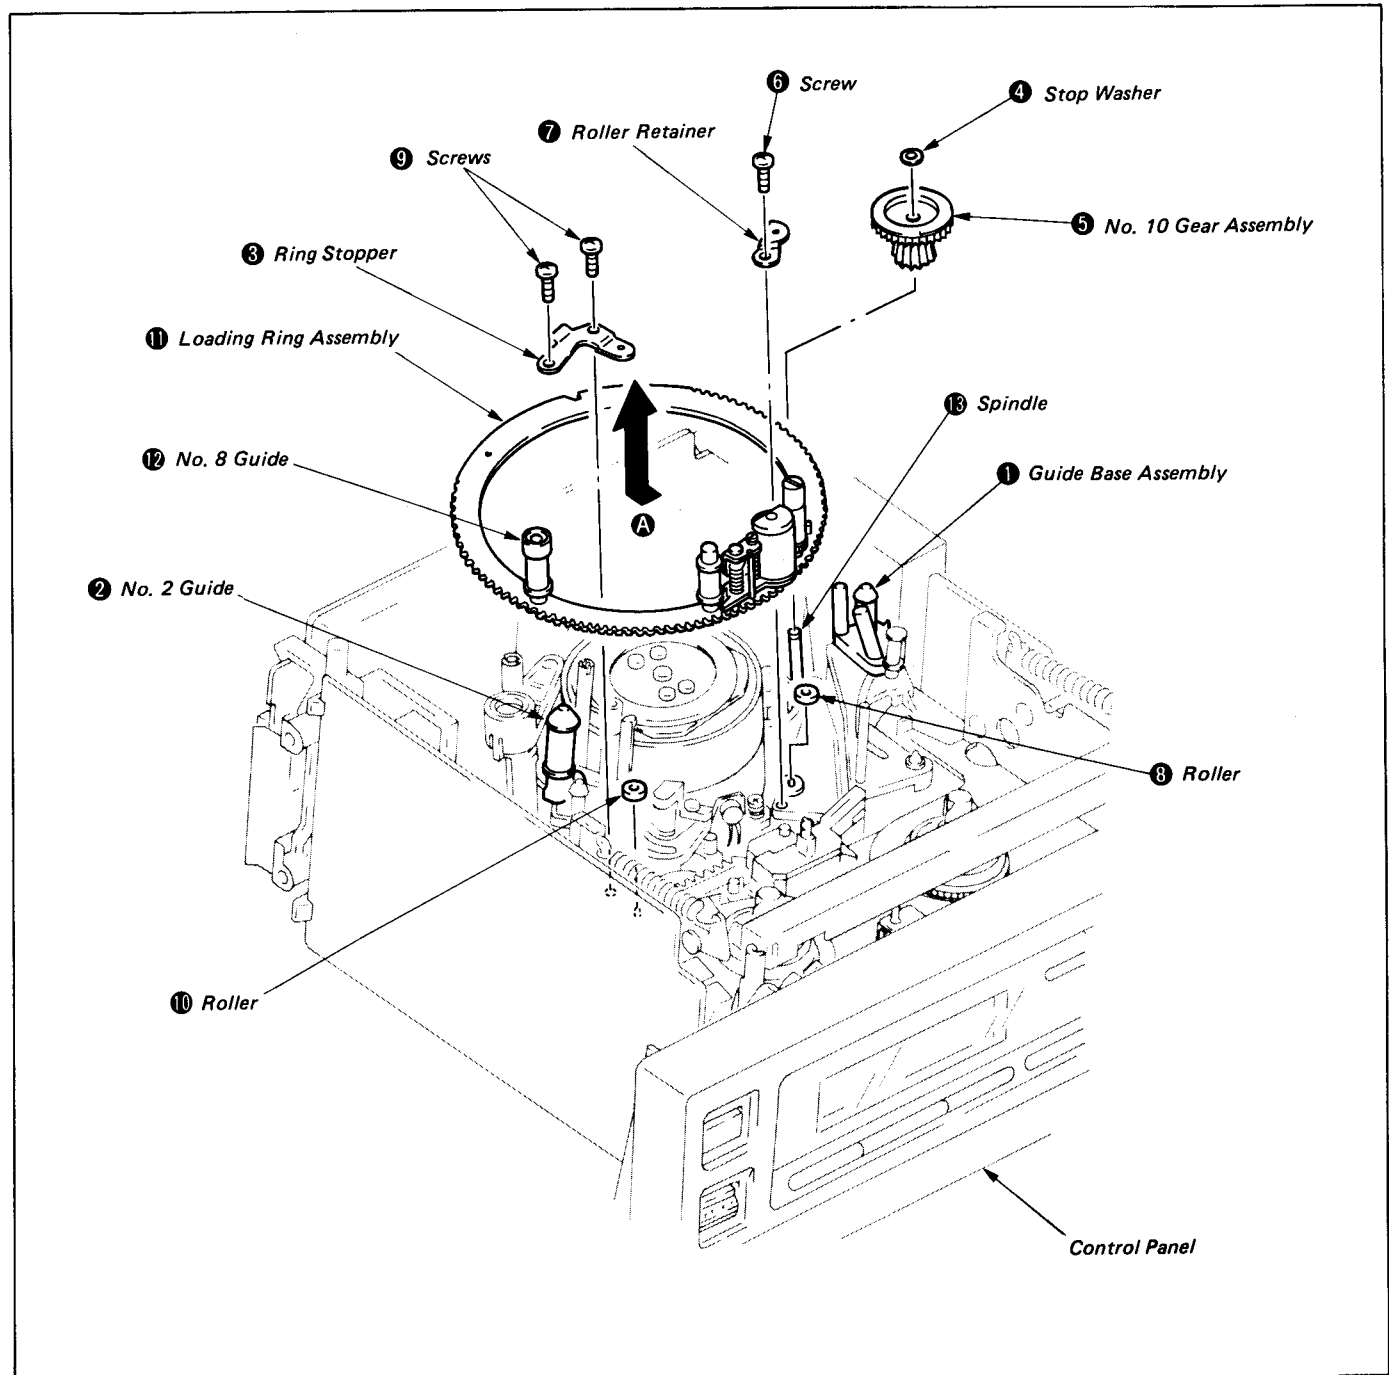

Fig. 1-15
- 1) Operate the mode selectors to move the guide base assembly ① to immediately before the lock and the No. 2 guide ② to the position where the screw of the ring stopper ③ immediately before the lock. (Do not move the loading ring assembly ⑪.)
- 2) Remove the stop washer ④ and disengage the No. 10 gear assembly ⑤.
- 3) Remove the screw ⑥, roller retainer ⑦ and roller ⑧.
- 4) Remove the two screws ⑨, ring stopper ③ and roller ⑩.
- 5) Remove the loading ring assembly ⑪ in the arrow A direction. (See Fig. 1-15.)
- 1) Remount the loading ring assembly ⑪ in an unthreading condition (with the pinch roller moved to the control panel side). (Check that the loading ring assembly is in the condition of 1) of Removal.)
- 2) Remount the roller ⑩ and ring stopper ③ and tighten the two screws ⑨. (The No. 8 guide ⑫ should be located near the control panel than the ring stopper ③.)
- 3) Remount the roller ⑧ and roller retainer ⑦ and tighten the screw ⑥. (Check that the loading ring assembly fits the three rollers.)
- 4) Oil half a drop of oil on the spindle ⑬. (See Fig. 1-15.)